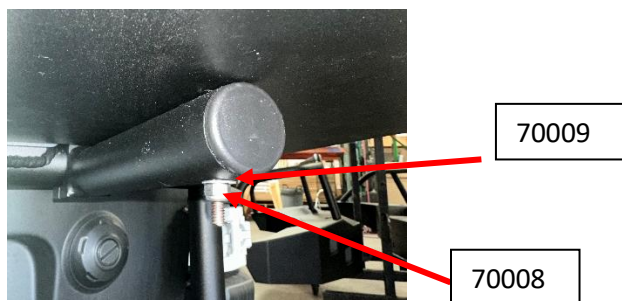

Figure 10: support post mounting
23. Mark and drill 5/16" holes through the back of your box into the cross pipe in the middle of the base unit, and through the bottom of the box into the support posts. Secure box to rail using the hardware shown in figures 10 and 11 below.